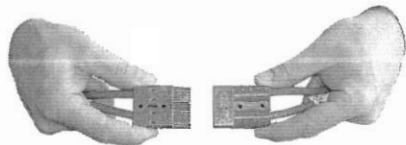

Fig. 2
4. Reconnect the winch wiring harness to the battery and push together the connectors as shown in Fig. 2. Your winch should now be ready to operate. NOTE: Holes are provided in the housings for permanent mounting, if this is desirable.